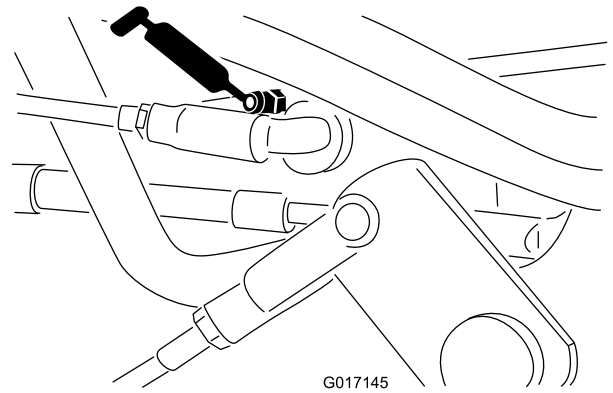
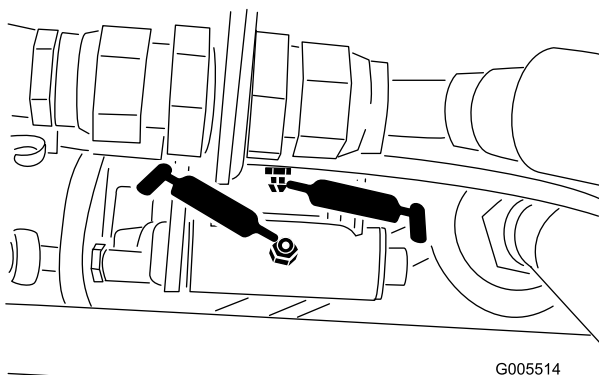

Figure 43
Figure 42
- Speed selector linkage (Figure 42 and Figure 43)